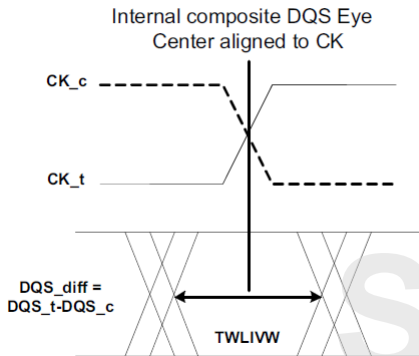

Figure 25. DQS\_t/DQS\_c to CK\_t/CK\_c timings at the DRAM pins referenced from the internal latch
- 28)  $t_{WLIVW}$  is defined in a similar manner to  $tdlVW\_Total$ , except that here it is a DQS input valid window with respect to CK. This would need to account for all VT (voltage and temperature) drift terms between CK and DQS within the DRAM that affect the write-leveling input valid window. The DQS input mask for timing with respect to CK is shown in Figure 25. The "total" mask ( $t_{WLIVW}$ ) defines the time the input signal must not encroach in order for the DQS input to be successfully captured by CK with a BER of lower than  $t_{bd}$ . The mask is a receiver property and it is not the valid data-eye.